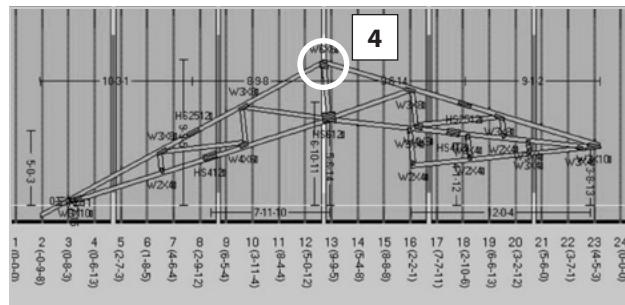

Figure 37
4. Click a point to rotate the reference point to (Figure 37)